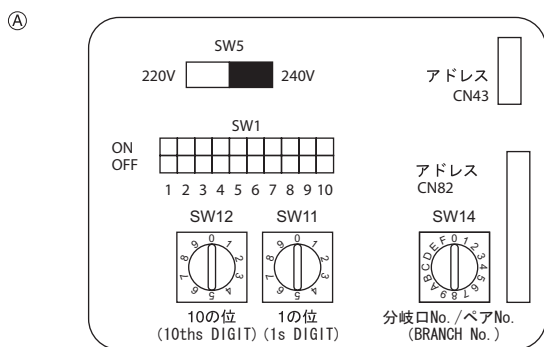

Fig. 5-5
5.5. Setting addresses (Fig. 5-5)